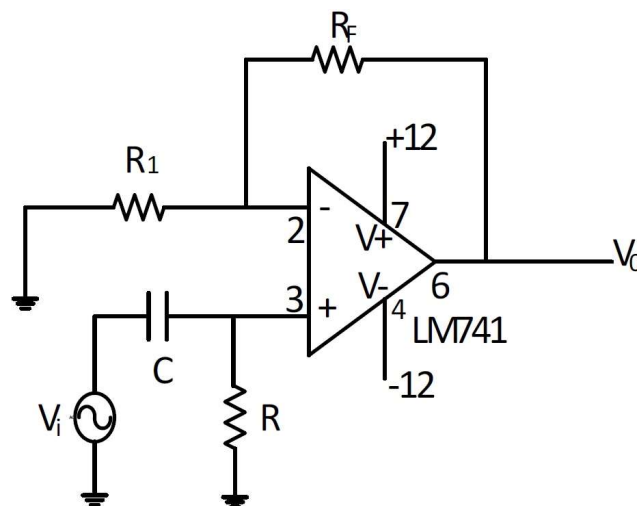

Fig.4
1. Assemble the circuit shown in Fig.4 with  $R_1 = 10\text{k}\Omega$ ,  $R_F = 100\text{k}\Omega$ ,  $R = 1\text{k}\Omega$  and  $C = 0.1\mu\text{F}$ . Make sure the power supply ground is connected to the circuit ground.